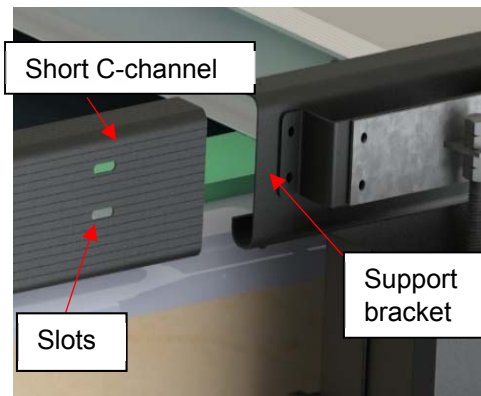

Figure 21
20) Insert the shortest C-Channel inside the support bracket. **Note:** There are **only** two holes at the end of these parts. The holes must go inwards toward the cover (Figure 21, Figure 22, Figure 23 and Figure 24).